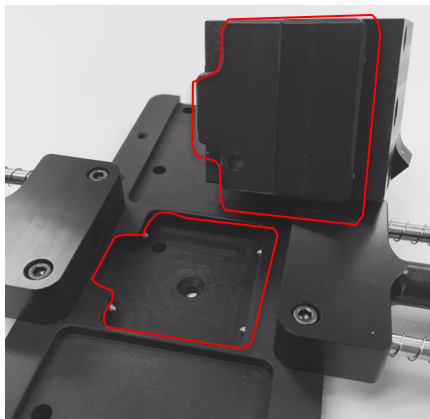
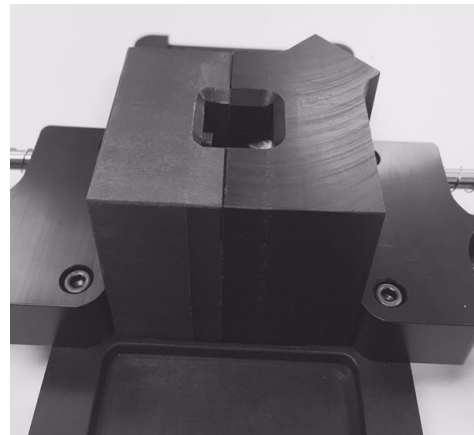

FIGURE 5: PMMA Dosimeter Holder orientation
FIGURE 6: PMMA Dosimeter Holder installation
4. All dosimeter holders are keyed and only insert into the baseplate in one orientation. Ensure proper orientation (see Figure 5) and insert the selected dosimeter holder so that it clicks firmly into place (see Figure 6). The holder is held in place by spring-loaded detent pins.
NOTE: If the fit is too tight, loosen the screws that hold the beam tube mounts to the baseplate with the 7/64" driver tool (see Figure 6). These screws do not need to be very tight and loosening them slightly will allow a very good fit.